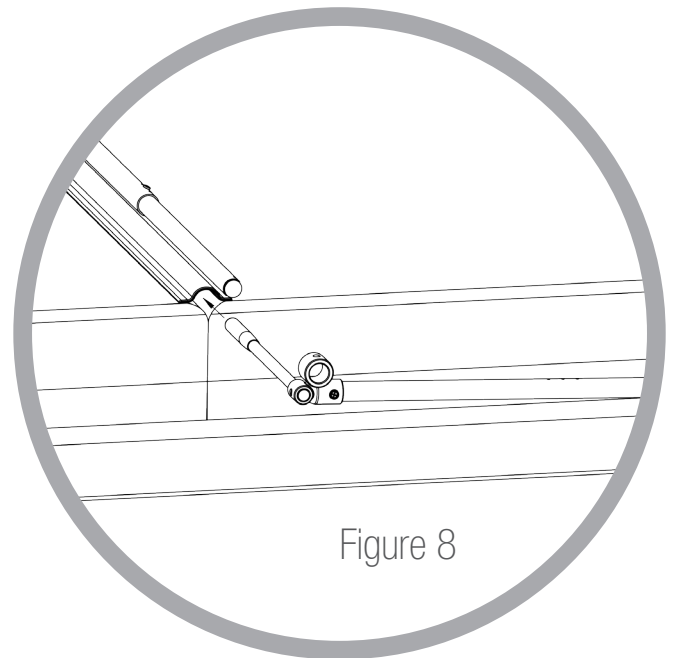

Figure 8
- Slip the Fingers (cvEE) under the seam in the middle of the spa cover facing the extension arm (cvDD) pointing towards the Pivot Arm (cvCC) The "knuckle" of the Plastic Support (cvPS) should be facing Up. See fig. 8